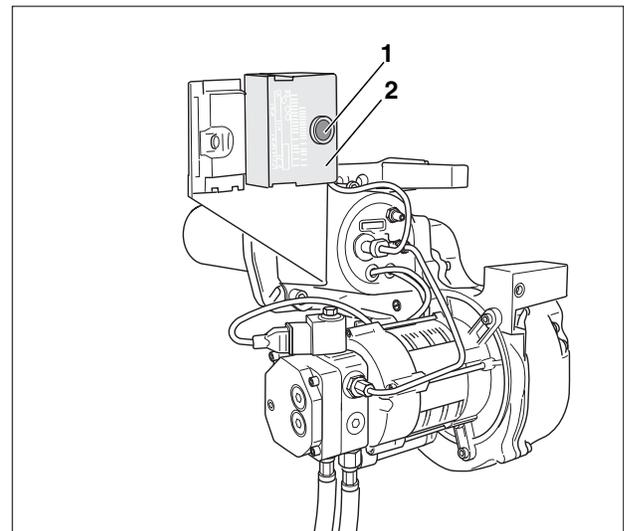

Fig. 12 Reset button and indicator light
- Bleed the system using an external oil pump, not by repeatedly pressing the reset button (Fig. 12, **Item 1**).
- Press and hold reset button (Fig. 12, **Item 1**) for at least one second (switch on). The burner will be reset to start or operating mode after about five seconds (see Table 7, „Display of burner operating status by multicolor LED“, page 13).
- Press reset button (Fig. 12, **Item 1**).